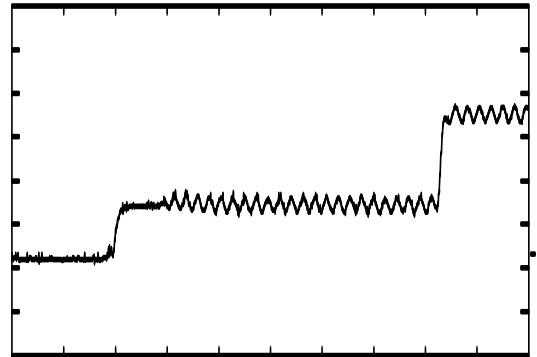

figure 3
- Lower the sweep speed to 2 μ s/div. The beginning of the line is expanded, the trigger point is unchanged (line synchronization pulse) (figure 3).